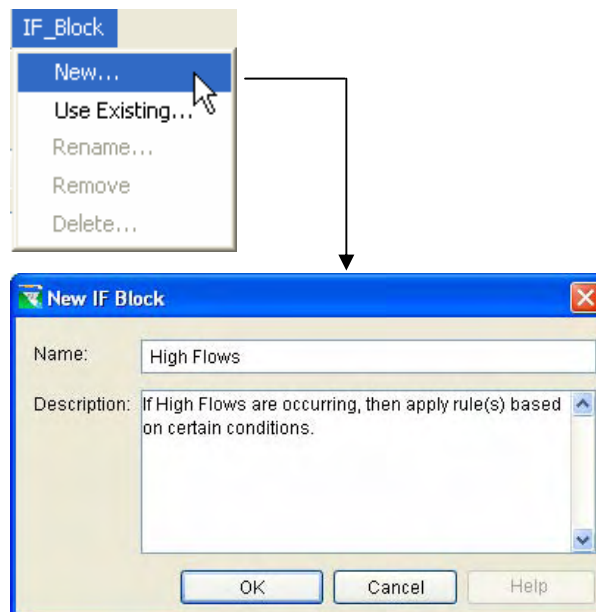

Figure 11.61 New IF_Block
1. From the operations tab of the reservoir editor, select a zone in your current operation set. Select **New** from the **IF_Block** menu of the Reservoir Editor. The **New IF_Block** dialog box will open where you will enter a **Name** (and optional **Description**). Figure 11.61 illustrates the creation of an IF_Block.